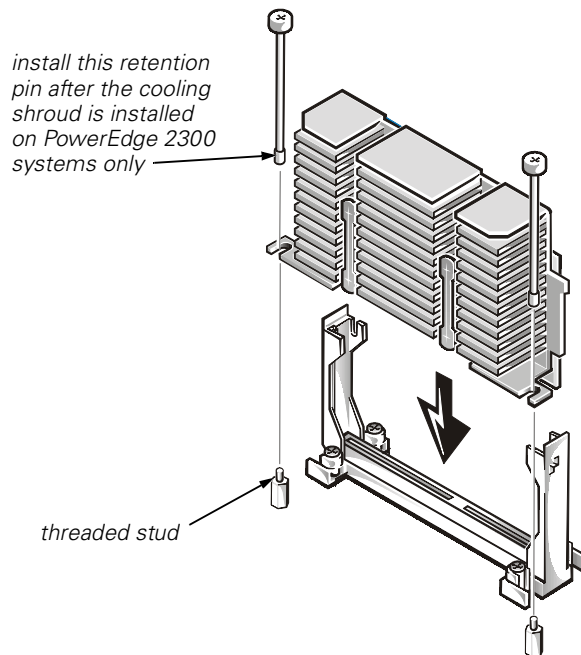

Figure 1-10. Installing the Microprocessor
1. Insert the new microprocessor into the system board connector (see Figure 1-10).
Upgrade microprocessors have a heat sink with a notch for engaging a threaded stud on the system board, as shown in Figure 1-10.